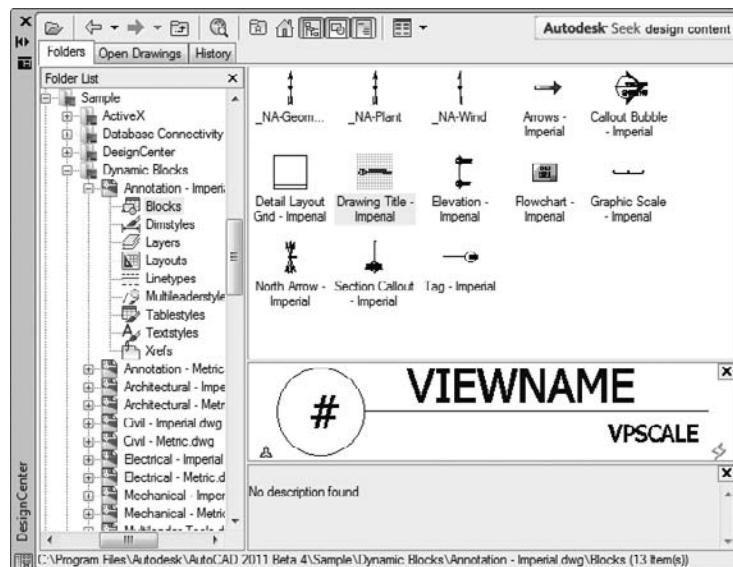

FIGURE 14.53 Selecting the Drawing Title block from the DesignCenter
4. Click and drag the Drawing Title - Imperial (Drawing Title - Metric) block (see Figure 14.53) into your layout, and close the DesignCenter.